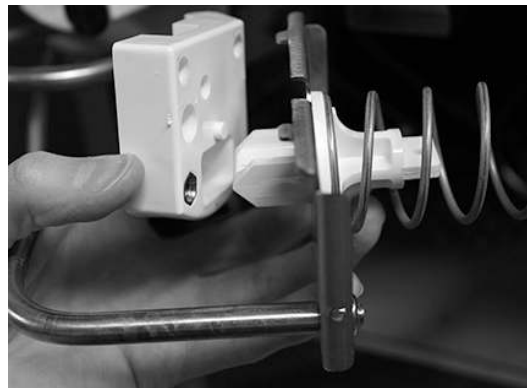

Figure 4
16. Reassemble the entire valve assembly: spring, plunger, manual dispense handle, valve body and door (see Figure 4).